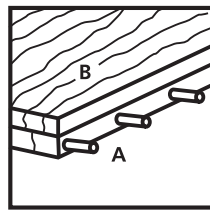

Figure 9
9. Remove board A from the clamps and lay it flat on the workbench with the dowel pins facing out. Place board B on top of board A with the side you want to drill facing up. Line up the end of the boards using a square. Board B should slightly overlap the joint edge of board A to ensure the jig lies against the edge of board B rather than the edge of board A. Clamp both boards on both sides of the workbench. See Figure 9.